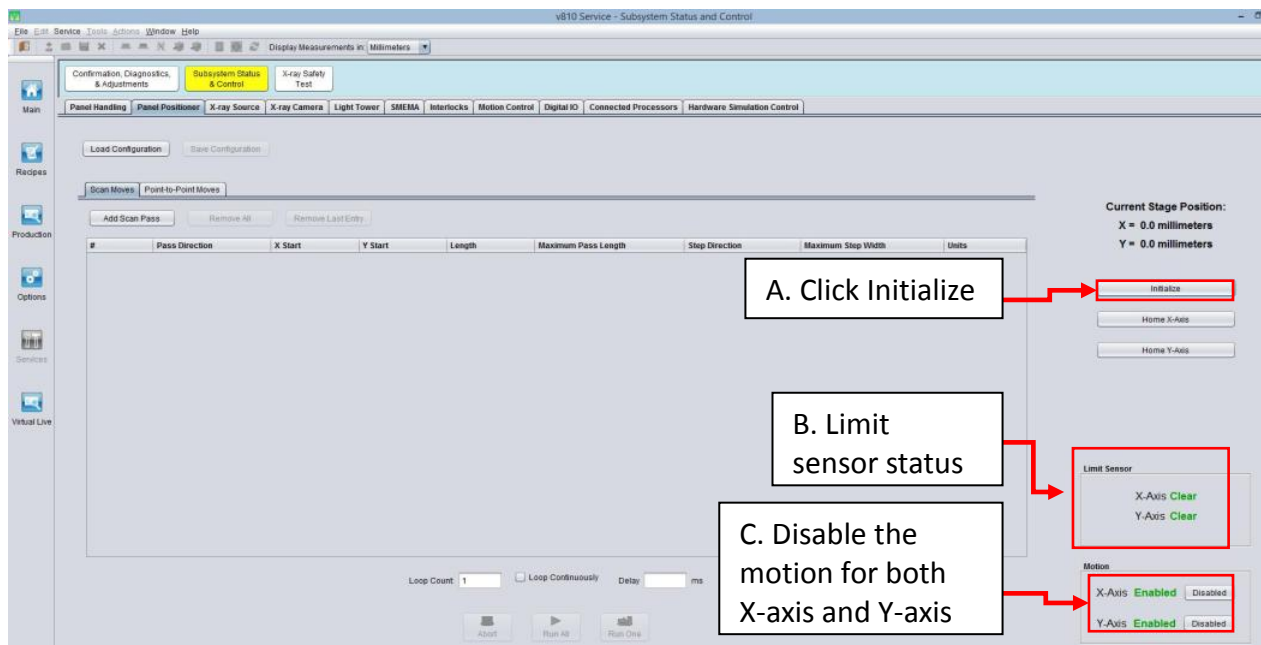

Figure 26 Panel Positioner
41. Go to the Panel Positioner tab and click Initialize. The limit sensor status for the Y-axis should be clear. Disable the Motion for the X-axis and Y-axis as shown in Figure 26. Close the X-ray source and open the front door.